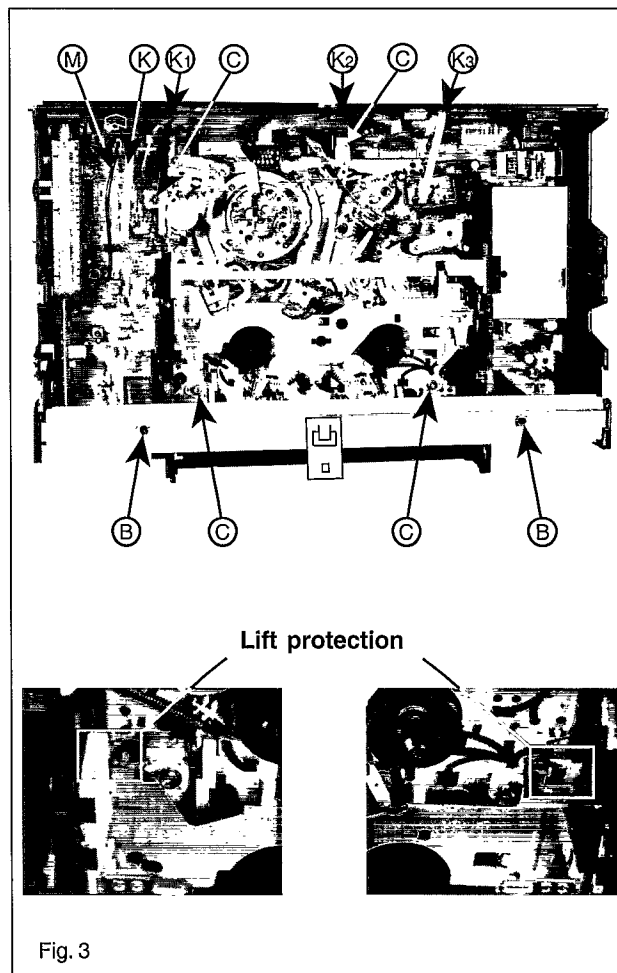
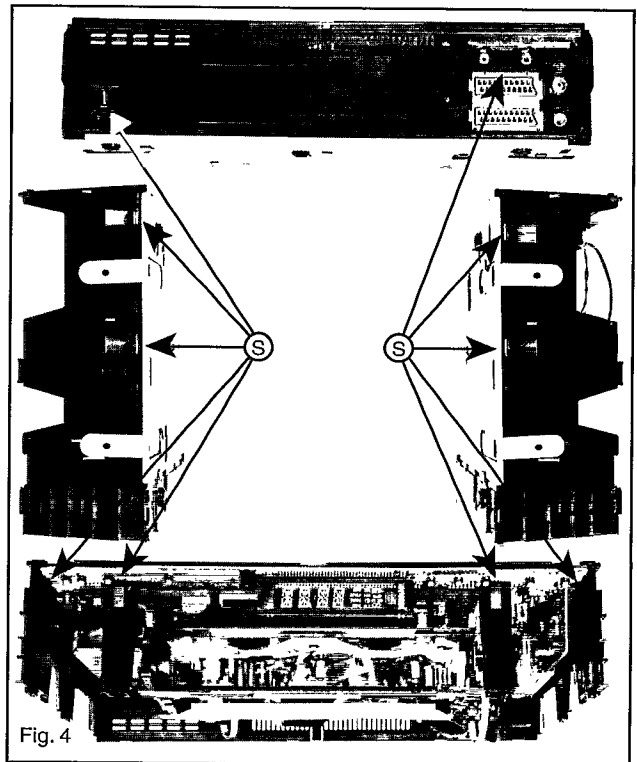
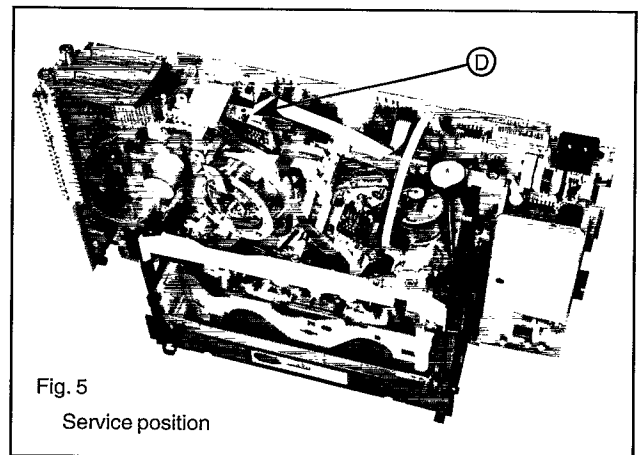
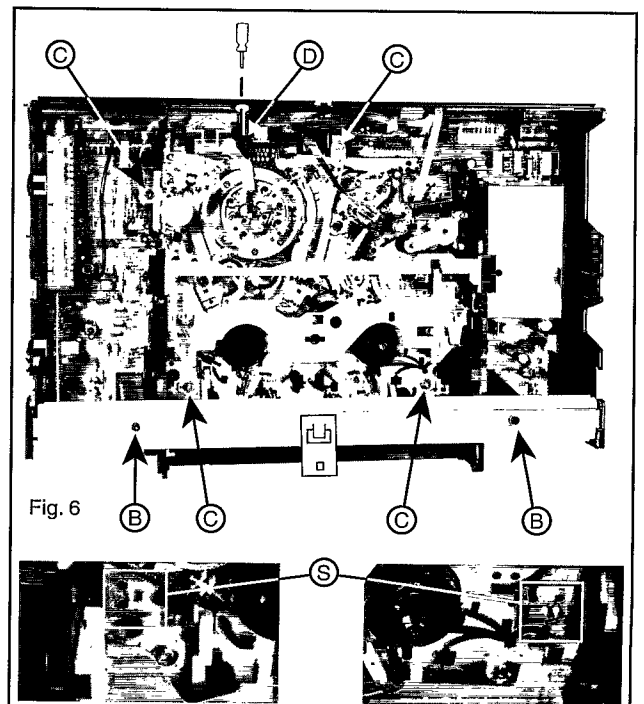

Fig. 3
Fig. 4
Fig. 5
Fig. 6
4. Dismantling of the motherboard/drive combination (Fig. 3) (Fig. 4)
- Move device into operational position (Fig. 3).
- Undo the two screws (B) of the stay and pull it up to remove it.
- Undo and remove the four fastening screws (C) of the drive.
- Detach the Cinch socket cable (K) and ground cable (M) from the socket print (if present).
- Undo the 10 catches (S) from the rear right to the rear front and then from the rear left to the front left.
- After the weight of the motherboard/drive unit has released it from the frame, the catch (S) at the mains socket has to be released for a second time.
- Turn the motherboard/drive unit and move it into the service position (Fig. 5), if necessary.
- Check that all 10 catches (S) are engaged.
- Secure the drive with the four holding screws (C).
- Push the stay onto the frame with the chamfered side facing to the rear and secure with both screws (B).
5. Dismantling the drive (Fig. 3)(Fig. 5)(Fig. 6)